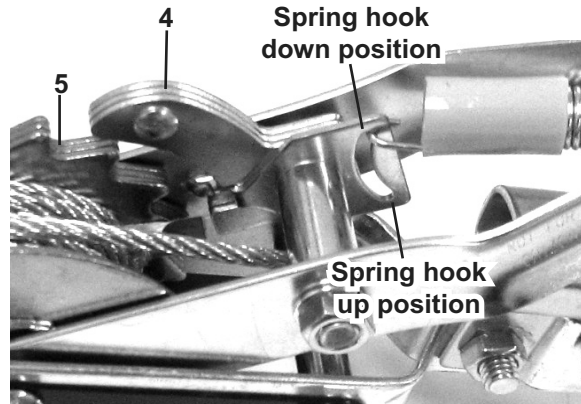

Figure 2
4. To engage the Drive Pawl (4), press it down to contact the Ratchet Gear (5) located just below Drive Pawl (4) as shown in Figure 2.
5. Slide the spring hook to the opposite end of its slot to make the Drive Pawl (4) stay in place. Begin cranking the Handle (1) toward the Anchor side of the Puller to begin pulling the load. See Figure 2.
1. Hold the release lever down by cranking the Handle (9) one notch tighter. As soon as the Pawls clear the ratchet tooth the unit will disengage. When loosening the Cable (8), slide the spring back to the other end of the slot, see **Figure 2**. Pull a short portion of the Cable (8) to create slack in the line.
2. Disconnect the Load Hook (9) and the Anchor Hook (1).